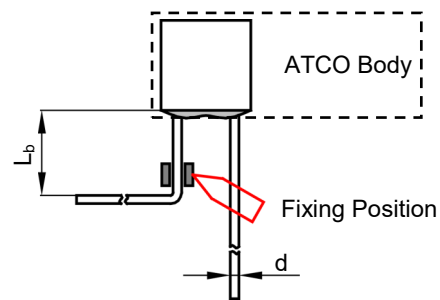

FIGURE K-2
2. When bending leads, please use pincher or similar tools to fix the product as shown in Fig.K-2, to avoid damaging the product.